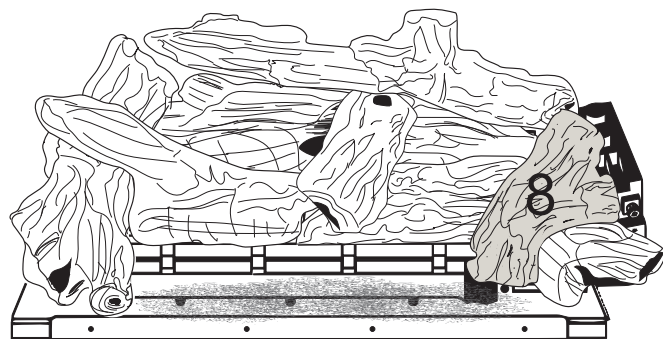

Figure 6.9 - Log #8 Placement
9. Hold Log #8 with the branched end away from you. Place log #8 by positioning the pin locator hole on the bottom of the log over the pin on log #1 and by rotating the log counter clockwise to match the notch on the log with the first tine on the grate. See Figure 6.9.